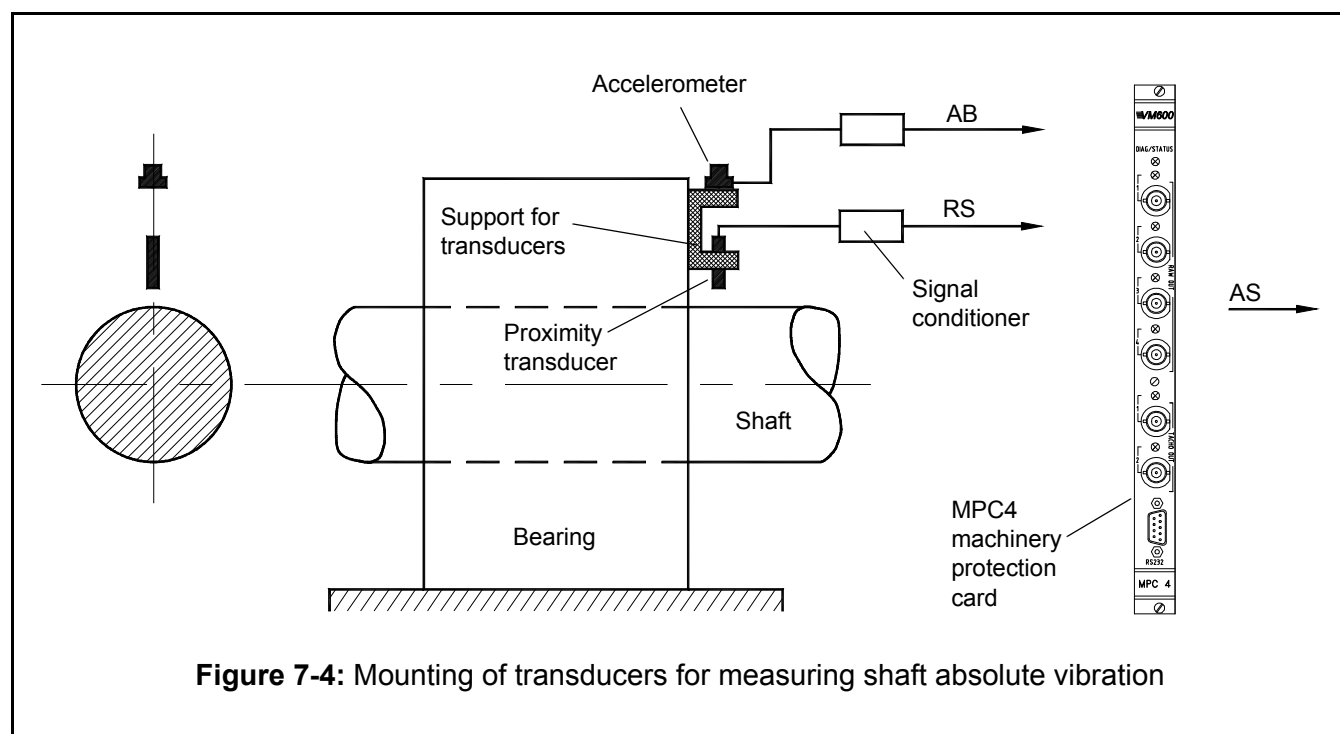

Figure 7-4: Mounting of transducers for measuring shaft absolute vibration
- a. The relative shaft vibration (RS) is measured using a non-contacting proximity transducer mounted on the machine bearing (see Figure 7-4). The transducer and its signal conditioner output a voltage-based signal proportional to the distance between the transducer tip and the rotating shaft. This corresponds to the relative displacement between the shaft and the bearing.
- b. The absolute bearing vibration (AB) is measured using a seismic transducer mounted on the machine bearing. This will normally be an accelerometer, which provides a voltage-based signal proportional to the absolute acceleration of the bearing.
- c. The absolute bearing vibration (AB) is processed by the MPS to provide a signal proportional to the absolute displacement of the bearing.